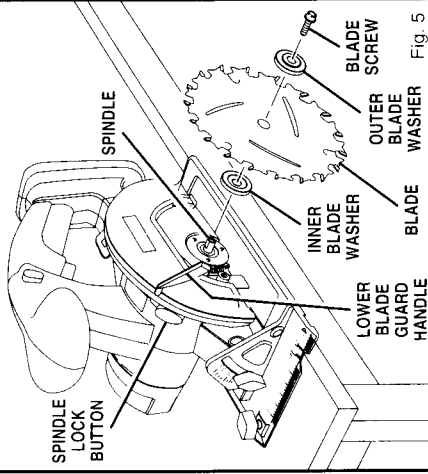

Fig. 5
- Depress spindle lock button and remove blade screw and outer blade washer. See Figure 5.
- Fit saw blade inside lower blade guard and onto spindle. **NOTE:** The saw teeth point upward at the front of saw as shown in figure 5.
Remove outer blade washer. See Figure 5.